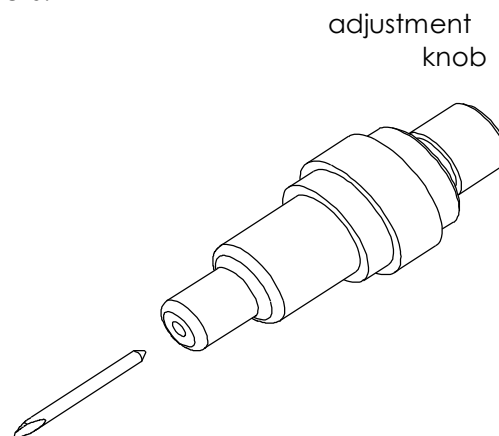

FIGURE 1-4
1. As shown in Figure 1-4, insert the knife blade into the knife holder using a pair of tweezers.